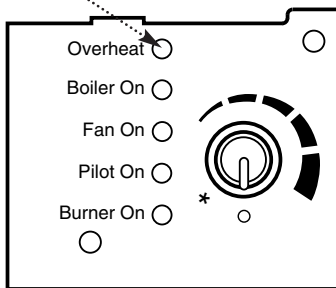

Fig. 90
3. **To reset the boiler** - Turn the boiler thermostat control knob fully anti-clockwise to the OFF position marked '0' (Fig. 90). Wait ten seconds, then turn the control knob clockwise to the required thermostat setting. The red neon will go out and the boiler will start automatically.